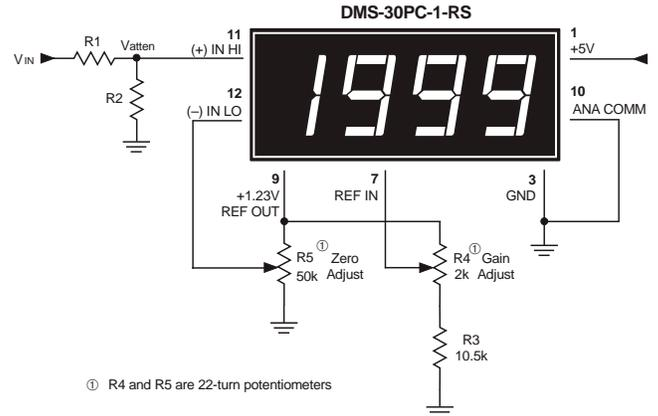

Figure 2. Schematic Diagram
Step 4. Find the null voltage that must be applied to pin 12 ((-) INPUT LO, see Figure 2):
When V_{IN} is 1V, Vatten(min) will be 0.08V. It must be nulled by also placing 0.080V on pin 12 ((-) INPUT LO) in order to achieve a display reading of “000”. The circuit shown in Figure 2 uses a precision 22-turn potentiometer ($R5$) to generate 0.08V of zero offset.